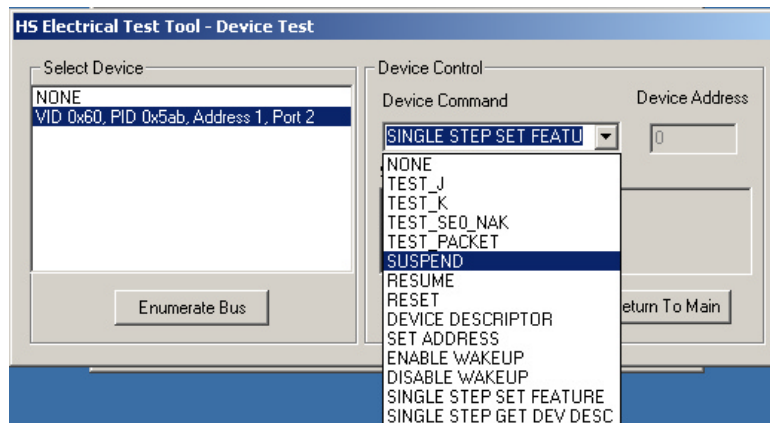

Figure 20. Device Suspend
5. On the HS Electrical Test Tool - Device Test menu, select SUSPEND from the Device Command drop down menu (Figure 20).